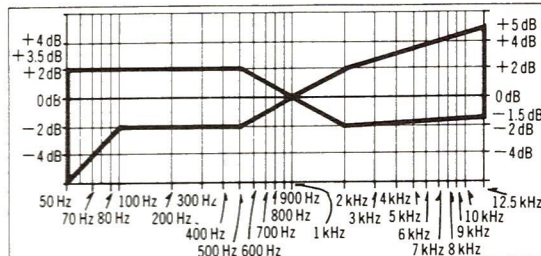
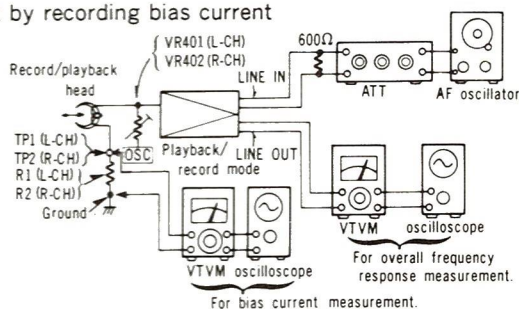
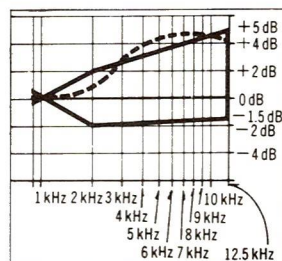

Fig. 11
Fig. 12
Fig. 13
G Overall frequency response [TAPE ②] Condition: • Record/playback mode • Normal tape mode • CrO₂ tape mode • Metal tape mode • Input level controls... MAX Equipment: • VTVM • AF oscillator • ATT • Oscilloscope • Resistor (600Ω) • Test tape (reference blank tape) ...QZZCRA for Normal ...QZZCRX for CrO₂ ...QZZCRZ for Metal	Note Before measuring and adjusting, make sure of the playback frequency response (For the method of measurement, please refer to the playback frequency response)  Fig. 11 Overall frequency response adjustment by recording bias current (Recording equalizer is fixed.) 1. Make connections as shown in fig. 12. 2. Place UNIT into normal tape mode and load the test tape (QZZCRA). 3. Input a 1kHz, -24dB signal through LINE IN. Place the set in record mode. 4. Fine adjust the attenuator to obtain 0.4V LINE OUT output. • Make sure that the input signal level is $-24 \pm 4dB$ with 0.4V output voltage. 5. Adjust the attenuator to reduce the input signal level by 20dB. 6. Adjust the AF oscillator to generate 50Hz, 100Hz, 200Hz, 500Hz, 1kHz, 4kHz, 8kHz, 10kHz and 12.5kHz signals, and record these signals on the test tape. 7. Playback the signals recorded in step 6, and check if the frequency response curve is within the limits shown in the overall frequency response chart for normal tapes (fig. 11). (If the curve is within the charted specifications, proceed to steps 8, 9 and 10.) If the curve is not within the charted specifications, adjust as follows: Adjustment A : Adjustment B :  Fig. 12
- 1 Make connections as shown in fig. 12.
- 7 Playback the signals recorded in step 6, and check if the frequency response curve is within the limits shown in the overall frequency response chart for normal tapes (fig. 11). (If the curve is within the charted specifications, proceed to steps 8, 9 and 10.)
When the curve exceeds the overall frequency response chart specifications (fig. 11) as shown in fig. 13.
- 2 Repeat steps 6 and 7 to confirm. (Proceed to steps 8, 9 and 10 if the curve is now within the charted specifications in fig. 11.)
- 3 If the curve still exceeds the specifications (fig. 13), reduce bias current by turning VR401 (L-CH) and VR402 (R-CH) and repeat steps 6 and 7.
When the curve falls below the overall frequency response chart specifications (fig. 11) as shown in fig. 14.